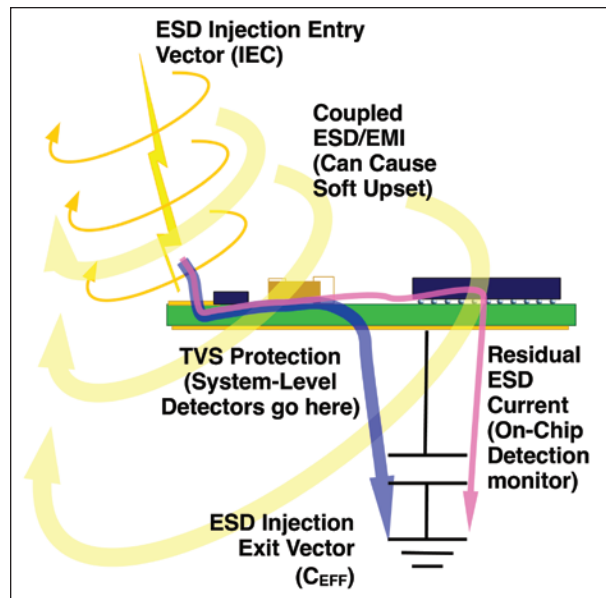

Figure 1: Consider the entry/exit vector and where to place the detectors.
- **Be the Bolt:** Identify the entry/exit vector(s) of concern. Find a place to attach a voltage, current, or near-field probe to the discharge path in order to trigger your detector. (See Figure 1.)